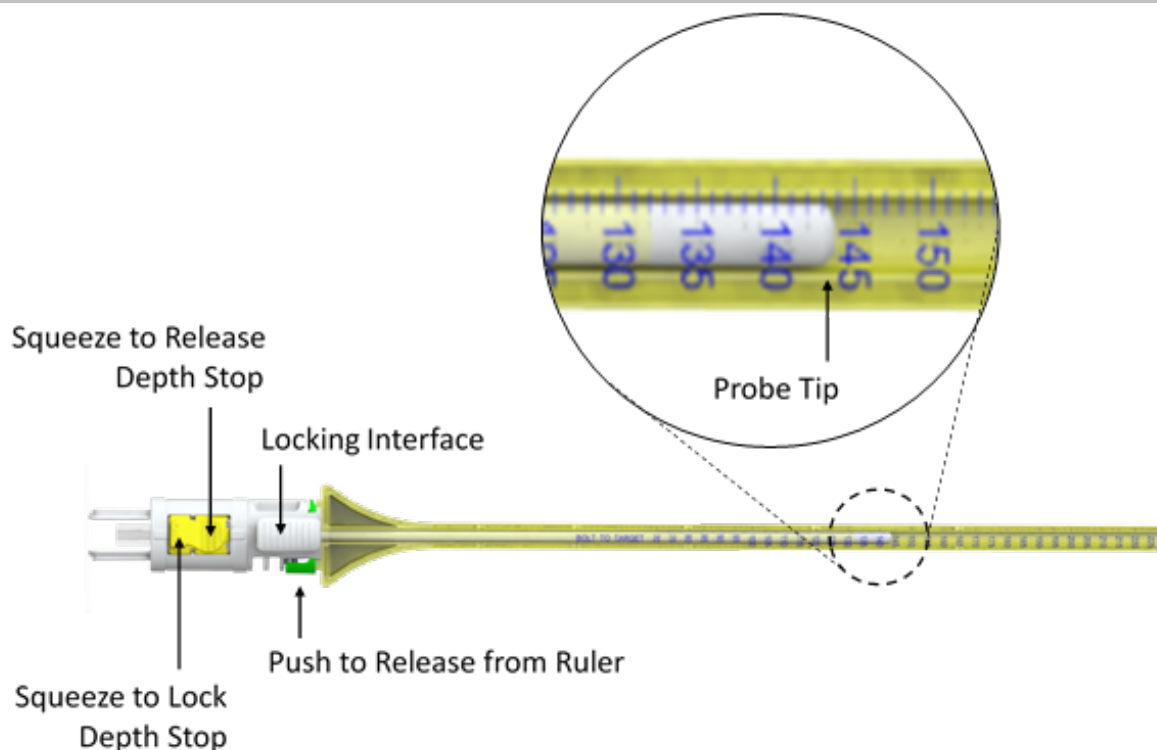

Figure 8.6.1: Adjustment and Setting of Depth Stop
- Ensure the LDP is fully inserted into the ruler provided as shown in Figure 8.6.1. When inserting the LDP into the ruler an audible click can be heard when fully inserted